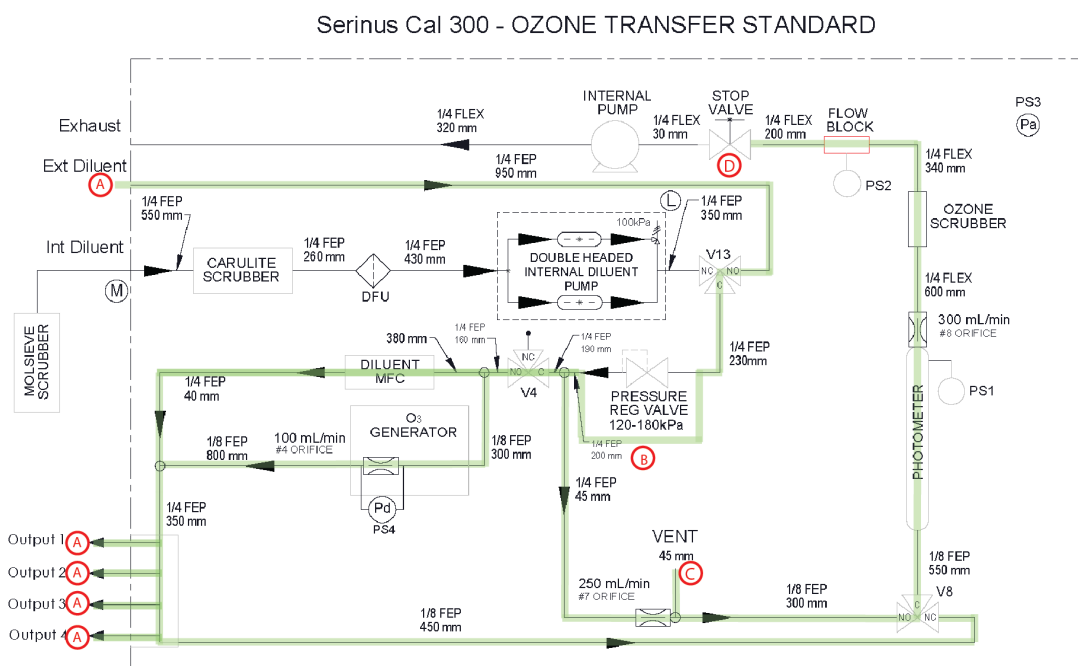

Figure 76 – Leak Check: 1A (Photometer + Gas Delivery + Ext. Diluent + Ref. Air)
11. Wait 3 min with the internal pump running then turn the stop valve (90 degrees) marked as “D” on Figure 76.